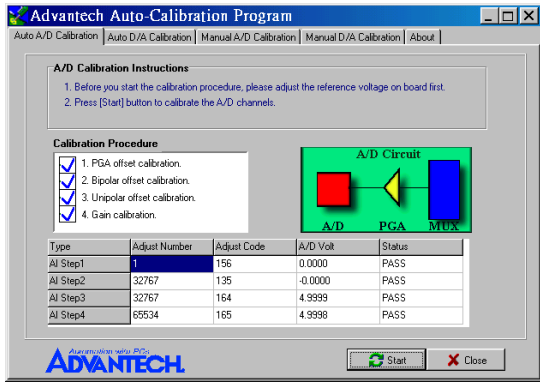

Figure 5-10: A/D Calibration is finished
Step 8: Auto-calibration is finished. (See fig. 5-10)